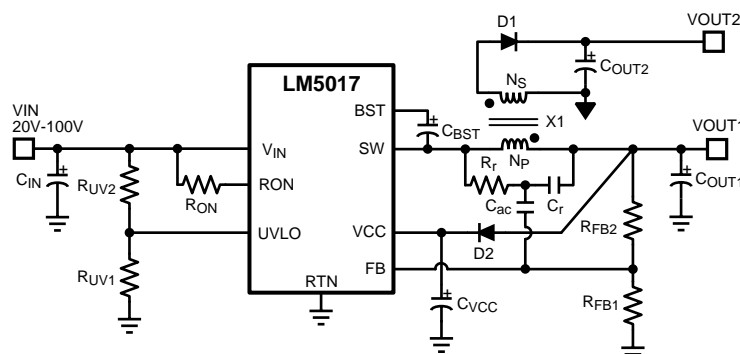

Figure 18. Typical Isolated Application Schematic
An isolated supply using LM5017 is shown in Figure 18 below. Inductor (L) in a typical buck circuit is replaced with a coupled inductor (X1). A diode (D1) is used to rectify the voltage on a secondary output. The nominal voltage at the secondary output (V_{OUT2}) is given by: